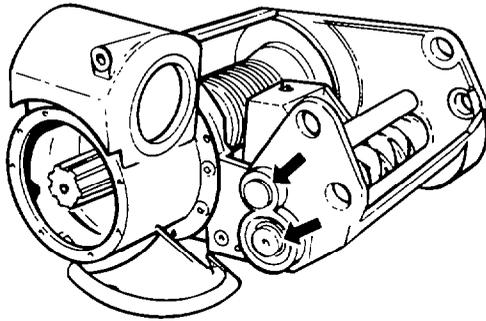
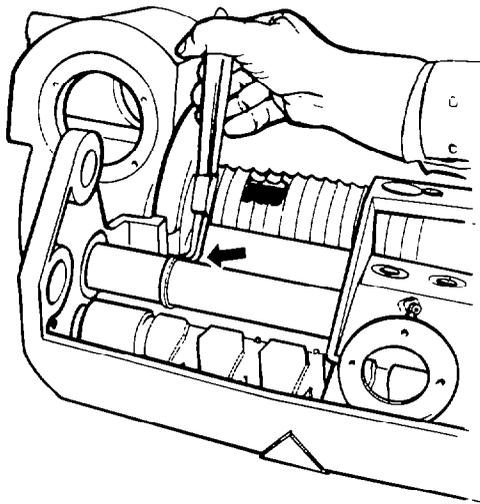

Figure 134 Fairlead guide Shaft — Outer Snap Ring
Figure 135 Fairlead Guide Shaft — Inner Snap Ring
- p. Remove the outer snap ring from the fairlead guide shaft (see Fig 134); remove the inner snap ring from the fairlead guide shaft (see Fig 135).
- h. Install the guide shaft for the fairlead, from the sprocket housing end, so that the end of the shaft protrudes far enough through the fairlead to allow the O-ring to be fitted; fit the O-ring to the guide shaft and push the shaft fully home in the winch; fit the inner and outer snap rings to the shaft (see Fig 134 and Fig 135).